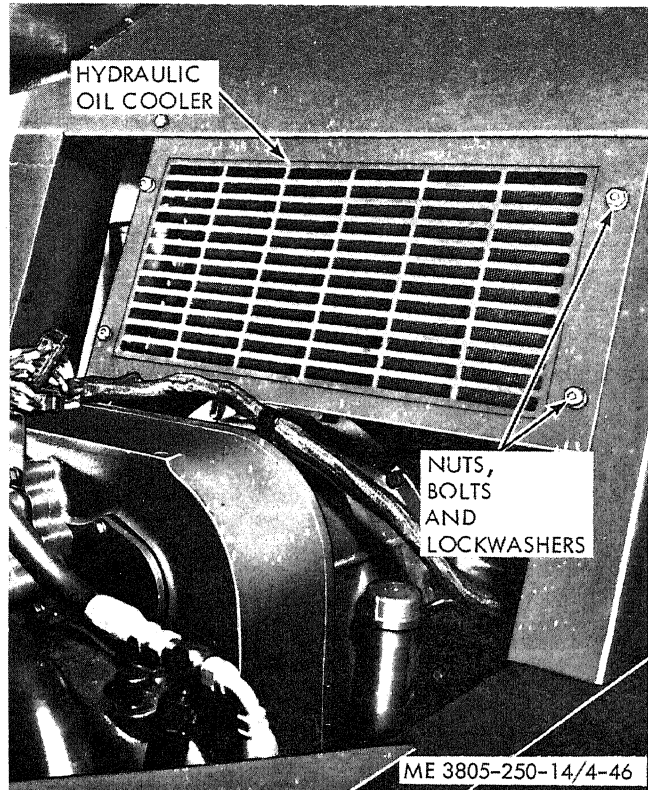

Figure 4-46. Hydraulic oil cooler, removal and installation.
b. *Replacement (fig. 4-46).*
(1) Remove six bolts, nuts and lockwashers securing the cooler to the loader frame.
(2) Disconnect inlet and outlet lines to the hydraulic system and water cooling system. Cap or plug openings.